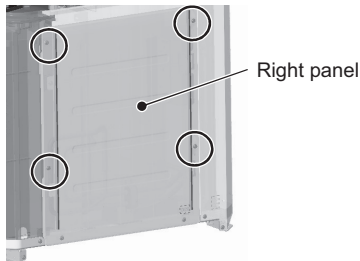
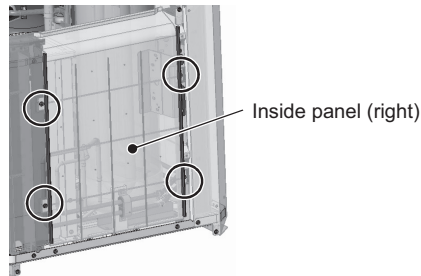
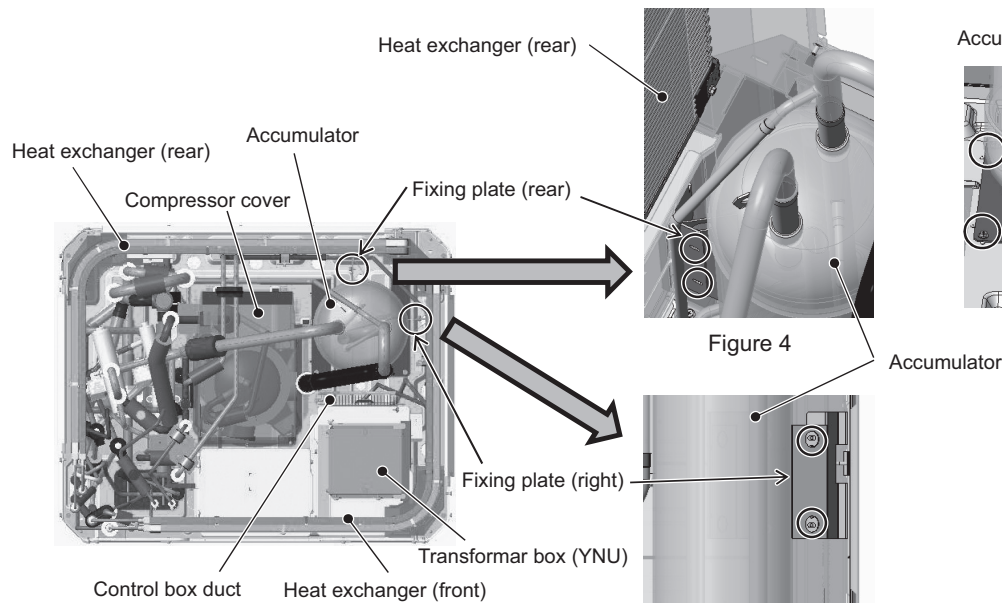
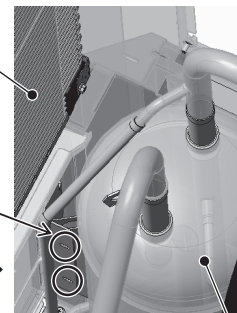

Figure 1
Figure 2
Figure 3
Figure 4
- (1) Remove the front heat exchanger. Refer to 8-13-9 Maintenance Procedures for the Heat Exchanger for details.
- (2) Remove the top, front, and right compressor covers. Refer to 8-13-5 Compressor Replacement Procedure for details.
- (3) Remove the duct from the control box. Refer to the control box replacement procedure for details.
- (4) Remove the right and inside (right) panels by unscrewing the eight screws. (See Figures 1 and 2.)
- (5) Unscrew the two screws from the right accumulator fixing plate. (See Figures 3 and 5.)
- (6) Unscrew the two screws from the rear accumulator fixing plate. (See Figures 3 and 4.)
<p><KB type, J type, and 4-, 6-, 8-branch types></p> <ol style="list-style-type: none"> 1) Remove the control box by unscrewing the four fixing screws. (Figure 1) 2) Unscrew the four service panel fixing screws. (Figure 2) 3) Remove the top panel by unscrewing the nine fixing screws. (Figure 2) <p><For J-type, 12- and 16-branch types, JA-type, and KA-type></p> <ol style="list-style-type: none"> 1) Remove the service panel (1) by unscrewing the two fixing screws. (Figure 3) 2) Remove the control box by unscrewing the four fixing screws. (Figure 3) 3) Remove the top panel by unscrewing the 10 fixing screws. (Figure 4) 4) Remove the service panel (2) by unscrewing the two fixing screws. (Figure 4) 	<p>The explanatory figure consists of four diagrams labeled Figure 1 through Figure 4, illustrating the removal process:</p> <ul style="list-style-type: none"> Figure 1: Shows the control box being removed from the side of the unit. A label 'Control Box' points to the component. Figure 2: Shows the service panel and ceiling panel being removed from the top of the unit. Labels 'Ceiling panel' and 'Service panel' are present. Figure 3: Shows the control box and service panel (1) being removed from the front of the unit. Labels 'Control Box' and 'Service panel (1)' are present. Figure 4: Shows the ceiling panel and service panel (2) being removed from the top of the unit. Labels 'Ceiling panel' and 'Service panel (2)' are present.
<p>1) Remove the fixing screw on the long side of the bottom panel. (Four places encircled by circles in Figure 1)</p> <p>2) To prevent the bottom panel from falling, of the four screws indicated with triangles in Figure 1, only loosen (but not remove) the two screws that are diagonally located or on the opposite ends of the long side of the panel (either (1) and (3), (2) and (4), (1) and (4), or (2) and (3)). Remove the two remaining screws.</p> <p>3) As shown in the enlarged view of Figure 1, the fastening screw hole on the short side looks like two circles in different shape joined together (double-snowman shape). Slide the bottom panel in the direction of the arrow, and remove it in the downward direction. (Figure 2)</p> <p>4) When removing the drain pan, hold the protruded area of the panel or the socket and pull it straight down, using caution not to let it come into contact with the sheet metal. (Figure 3) If the drain pan comes into contact with the sheet metal, the drain pan may be scraped, leading to water leakage.</p> <p>Installing the bottom panel</p> <p>1) Of the four screws indicated with triangles in Figure 1, partially tighten the two screws that are diagonally located (either (1) and (3), or (2) and (4)).</p> <p>2) Thread the screw into the double-snowman shaped hole, move the panel in the opposite direction as when it was removed in step 3) above, set the screw into the smaller circle, and tighten the screw to hold the panel in place.</p> <p>3) Tighten the remaining screws.</p> <p>Note</p> <p>Do not stay directly underneath the unit when working with the bottom plate. Remove the drain piping to remove the drain pan. Check that no water has accumulated in the drain pan.</p>	<p>(Figure 1) Bottom panel</p> <p>(Enlarged view of Figure 1)</p> <p>(Figure 2)</p> <p>(Figure 3) Socket, Protrusion, Drain pan</p>